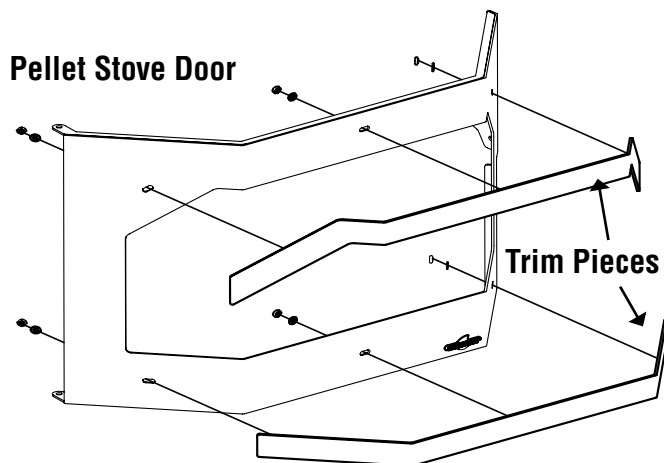

Figure 22
3. Open front door. Put trim in place by inserting trim studs into the corresponding holes in the door (Figures 22 & 25). The top piece of trim will only fit in one direction, but the bottom piece can be installed incorrectly. When placing the bottom piece of trim, make sure there is a 9/16" gap between the top of the trim piece and the glass in the door. (Figure 26)